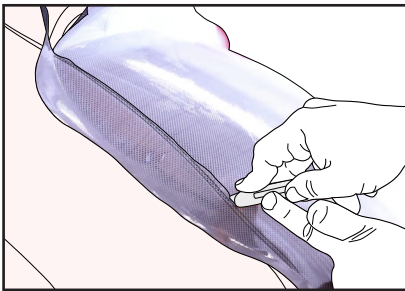

Figure 22
- › Cut the film completely. (FIG. 22)